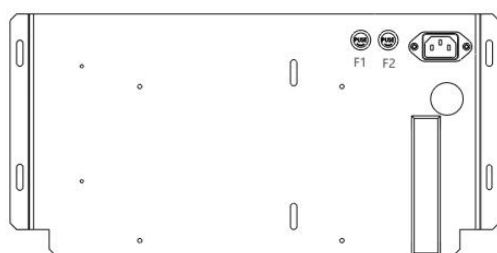

Figure 9 Floor Box Fuse
6.1.2 Fuses in Ground Cabinet (Figure 9)